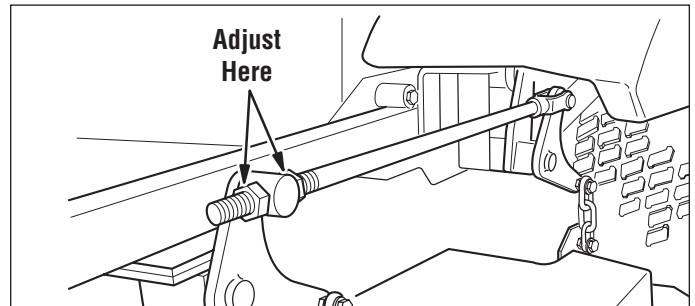

Figure 33. Adjust Lift Rod Timing
4. Refer to Figure 33. To adjust the lift rod timing, adjust the 5/8" hex nuts on either side of the front lift pivot until the measurements are equal. Repeat for other side.